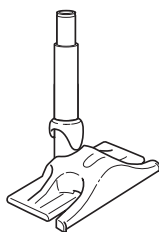

Fig. 1
**(Fig. 1)** Use only in Portable *Lift-Away*® mode.